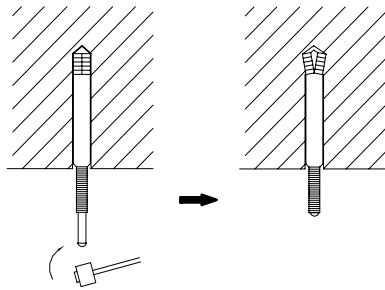

Fig.9.1
- (1) Insert a M10 expansion bolt into the hole. Drive a nail into the bolt. Refer to the profile dimensions drawing of the indoor unit for the distance between the holes. Refer to Fig. 9.1 for the installation of the expansion bolt.